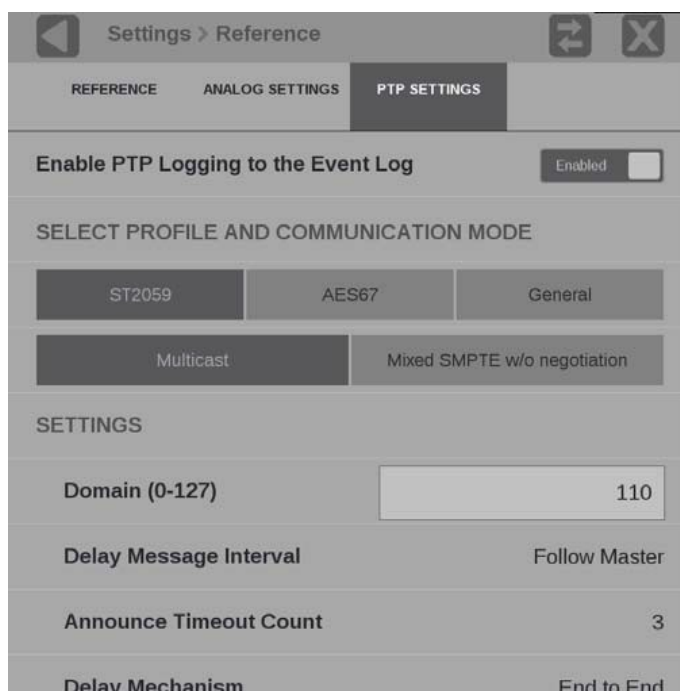

Figure 68: Editing PTP reference settings
2. Open the **Reference** menu and select the **PTP Settings** submenu shown in Figure 68.